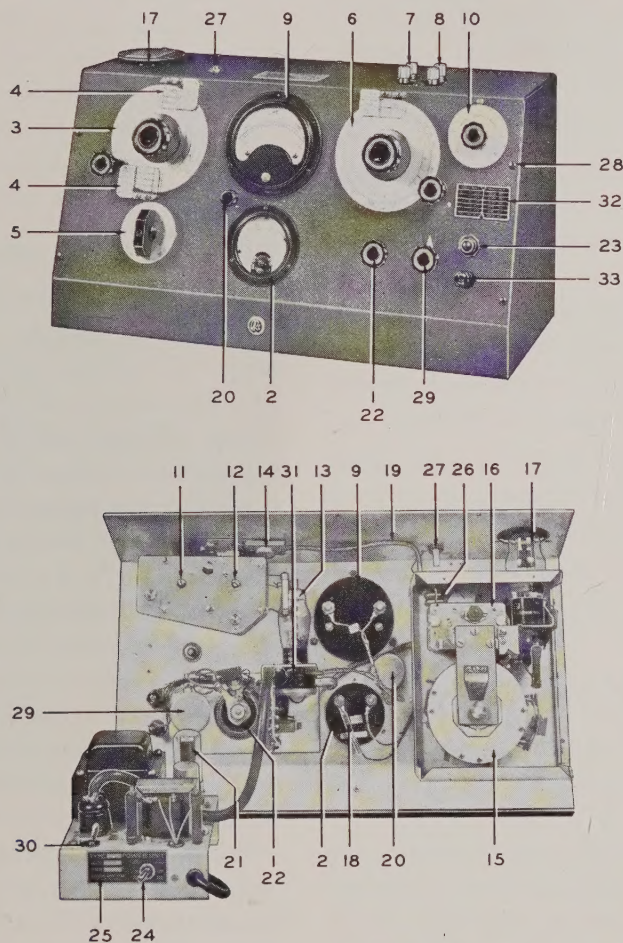

Fig. 1
The Q voltmeter (9) is adjusted to zero by means of the small knob directly below and to the left of the meter (see fig. 1).